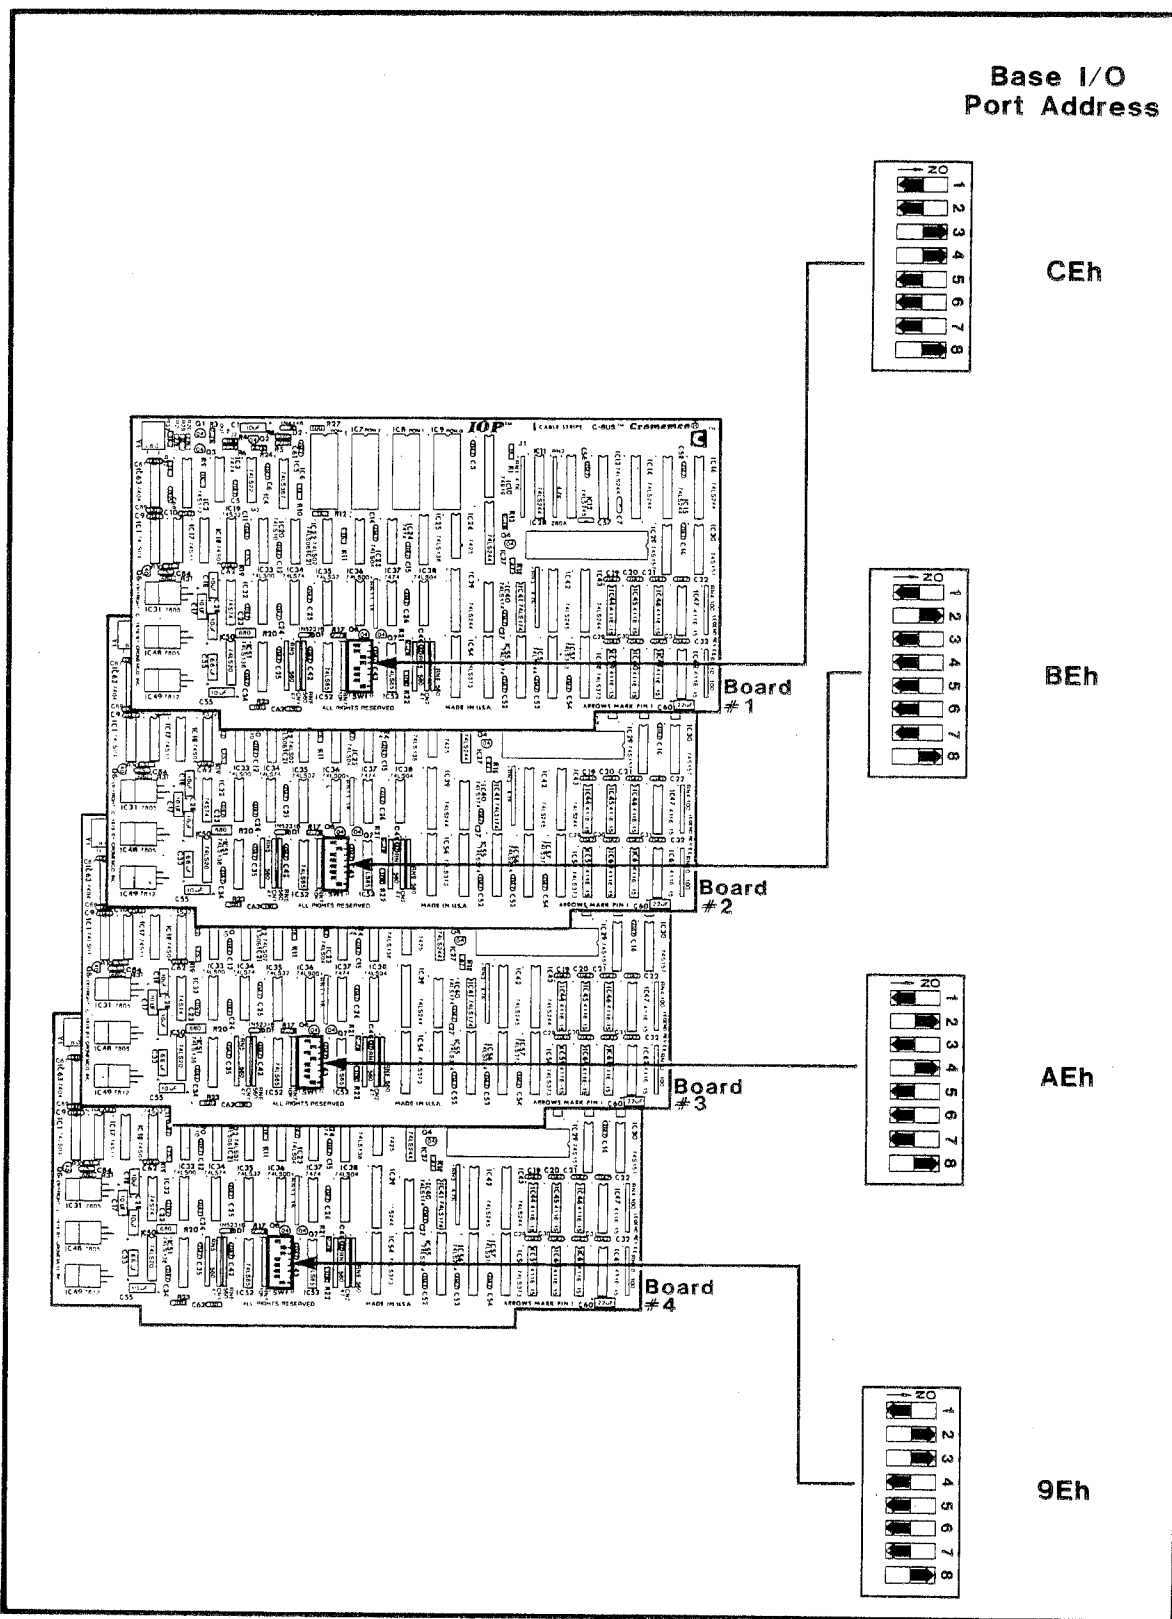

Figure 6-3: IOP SWITCHES
3. Set IOP switch SW-1 to select the correct S-100 I/O base address by referring to Figure 6-3.
3. Set IOP switch SW-1 to select the correct S-100 I/O base address by referring back to Figure 6-3.